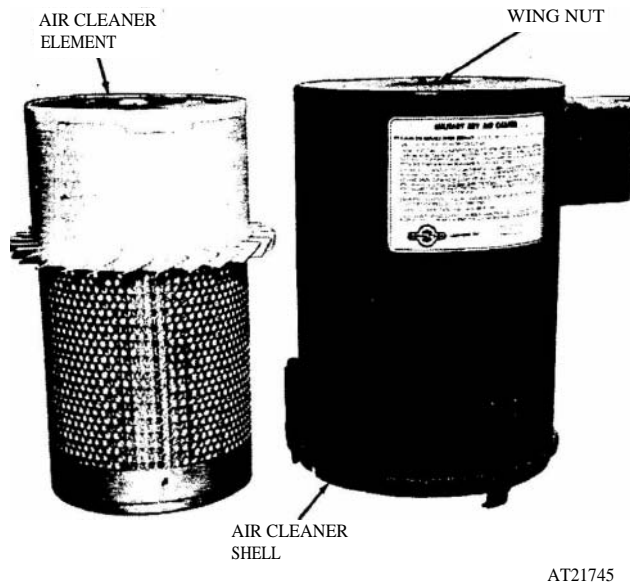

Figure 2-93. Air cleaner element replacement.
(1) Open and secure engine cover (refer to TM 9-2320-242-10).
(2) Remove air cleaner shell and element (refer to para 2-35).
(3) Remove filter element by loosening captive wing nut at top of air cleaner shell (fig 2-93).
(2) Remove air restriction indicator line (fig 2-93) from air cleaner base and fitting on floor-to-hose tube assembly.
(3) Remove crankcase breather tube by loosening fittings at air cleaner base and rocker arm cover. Remove hold-down clamps.